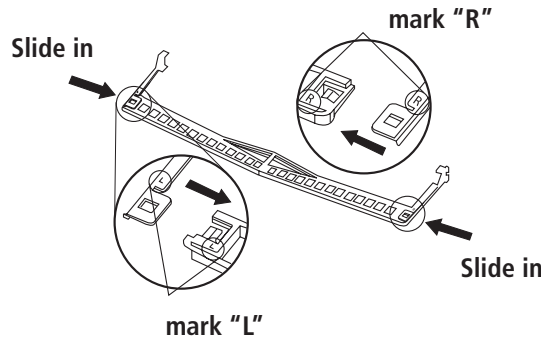

Figure 2. Attaching the side bracket.
2. Attach each side bracket to the matching end of the bar according to the same marking. See Figure 2.